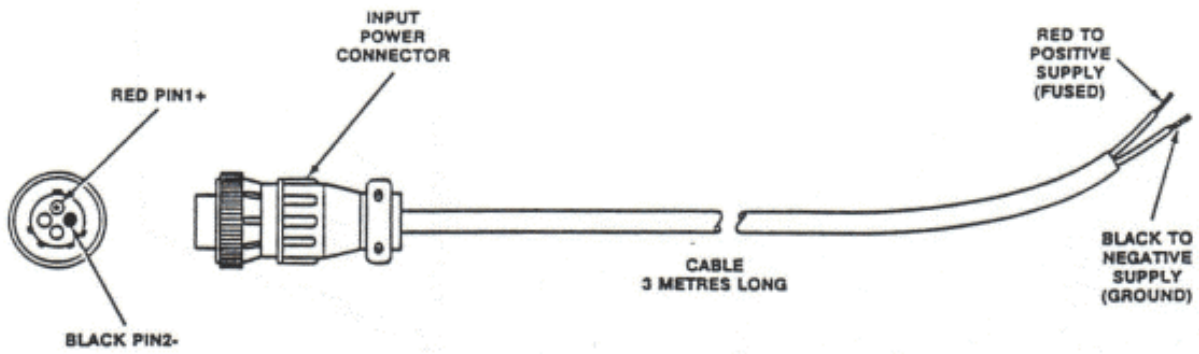

Figure 1.3 Power Input Cable Assembly - General View
- (c) Power Input Cable Assembly, Part Number 863701, is a three-metre length of two-core cable terminated at one end by a two-pin, female contacts, connector, which mates with the two-pin, male contacts, connector located at the left-rear of the transceiver. The unterminated end of the cable is connected to the 12Vdc vehicle power supply negative-ground during installation. A view of the cable assembly is given in Figure 1.3.